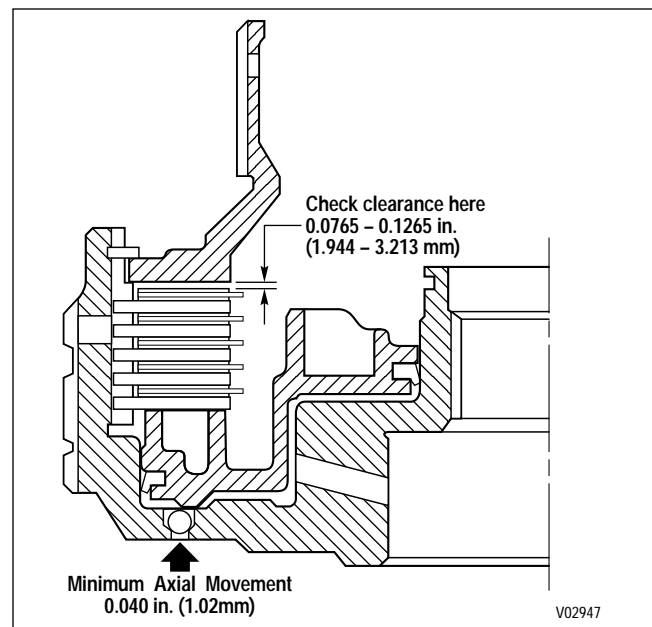

Figure 6-40. Forward Clutch Clearance Check Point (Models Without Wave Plate)
(1) If ball 10 or 15 was removed, place the new ball into the bore. Stake the bore at three equally spaced locations. The bore is properly staked when the ball has the minimum axial movement specified in Figure 6-40 and when the ball is retained by the staking when a 30 lb (133 N) load is applied against the ball.